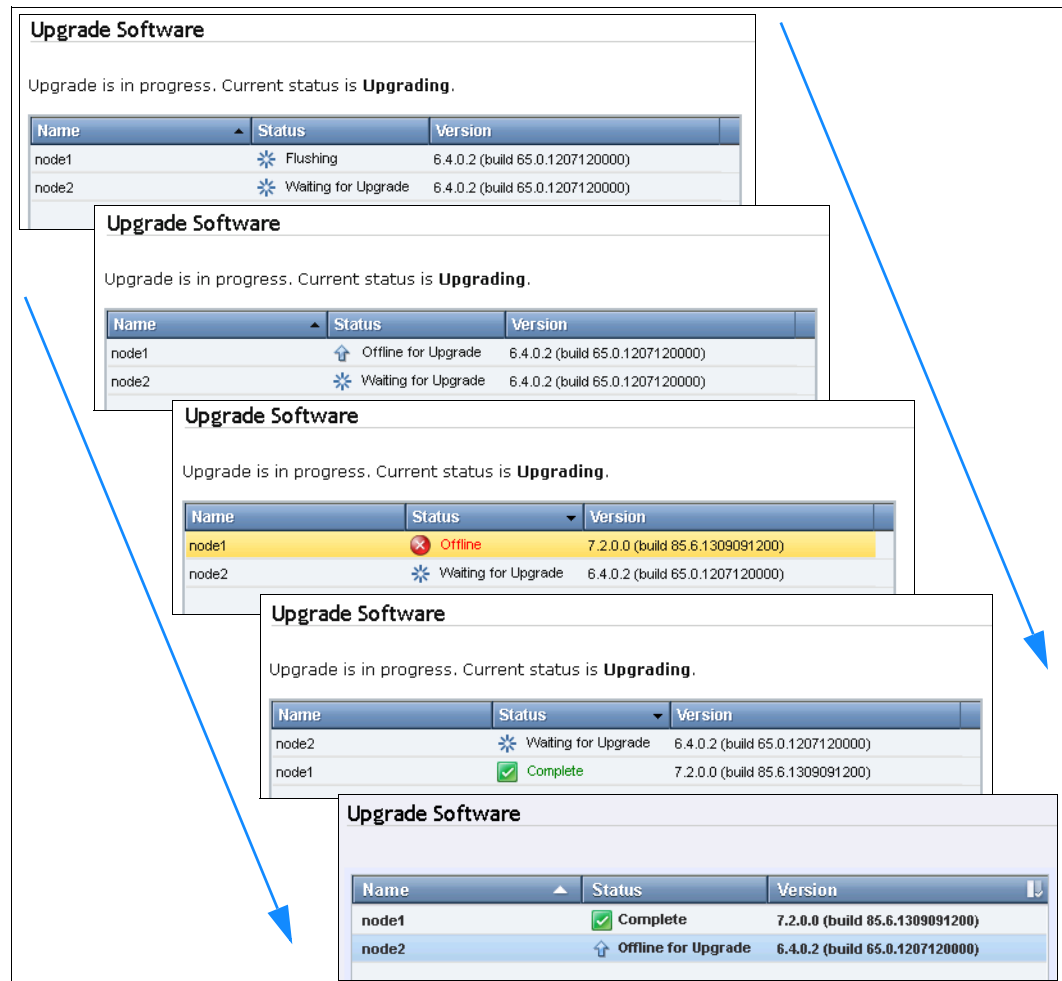

Figure 13-19 Information messages during upgrade process
11. Click **OK**. You have completed your task to upgrade the SAN Volume Controller software. You receive messages that inform you that first one node, then the other, has been upgraded. When both nodes have been rebooted, you have completed your SAN Volume Controller software upgrade. The section of messages is illustrated Figure 13-19 on page 471.